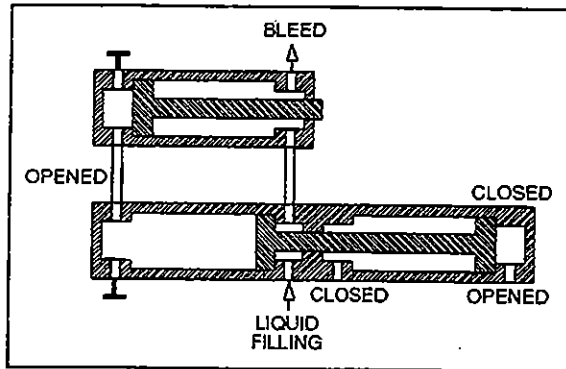

Figure 16
9. Open the drain cock on the door cylinder and the filling cock on the master cylinder piston side. See figure 16.